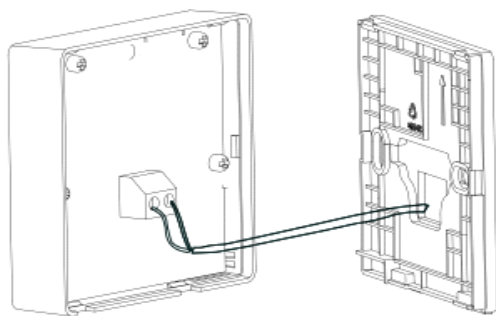

Fig. 7 — Mounting Controller
10. Mount the controller back onto the mounting plate. See Fig. 7.